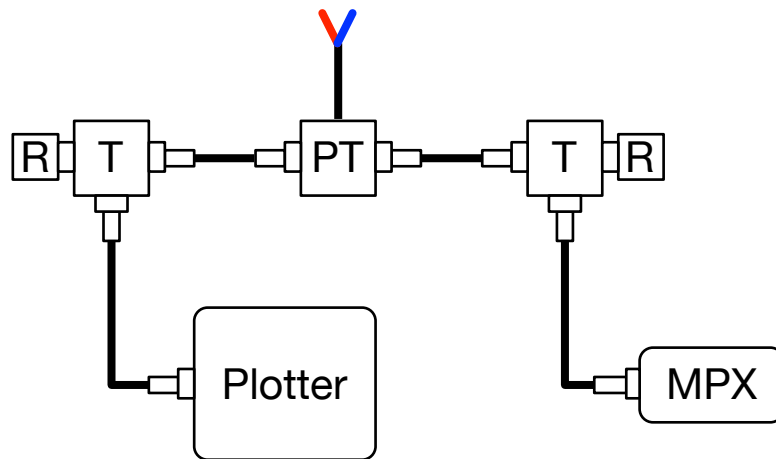

Figure 5: Minimalist NMEA 2000 Network
Figure 5 shows a minimal NMEA 2000 network with a plotter and a MiniPlex connected to an NMEA 2000 backbone. The network consists of a power-T (PT), two Ts to connect the drop cables to the devices and two terminators (R) at each end of the backbone.